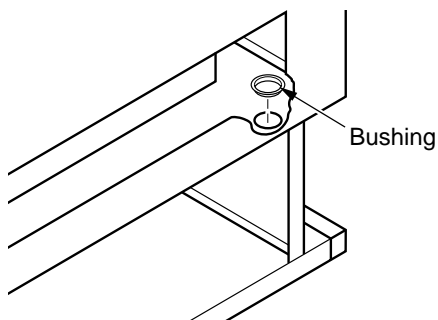

Figure 12 - Installing Bushing
4. Install one plastic bushing provided in blower kit into the 1 1/2" hole in the left rear of firebox floor. Access hole through the rectangular opening in the rear panel (see Figure 12).
11. Attach the terminal ends of the white and black power cord wires to the terminals on the blower motor (see Figure 12). Push firmly.
4. Install one plastic bushing provided in blower kit into the 1 1/2" hole in the left rear of firebox floor. Access hole through the rectangular opening in the rear panel (see Figure 12, page 10).